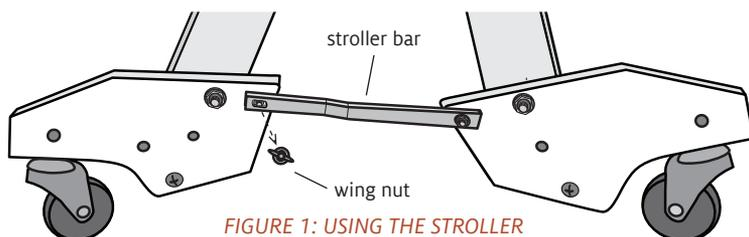

FIGURE 1: USING THE STROLLER
1. For traveling: Fold the loom, making sure that the treadles come to rest above the rear leg brace. Tighten the fold knobs and secure the slide lock bars (on bigger looms only) to keep the loom closed. The loom now sits on its stroller wheels (Figure 1). Remove the wing nuts on the bolts in the front caster blocks. Place the slots in the stroller bars over these bolts, replace the wing nuts, and tighten.